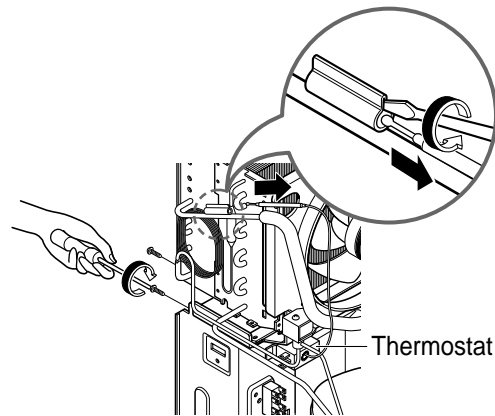

Figure 15
3. Remove the THERMOSTAT. (See Figure 15)